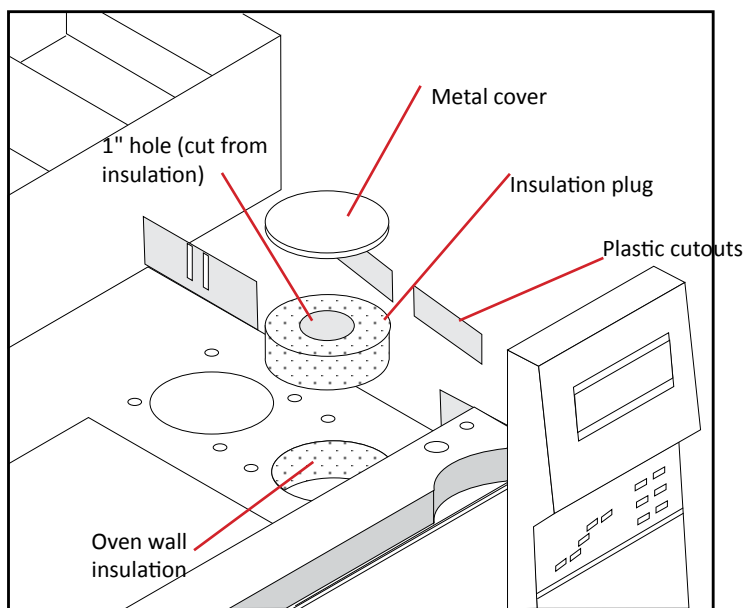

Figure 3.1. Preparing the GC detector port
5. If no detector was previously installed in the preferred detector port, remove the plastic cutout to the right of the selected port (Figure 3.1).